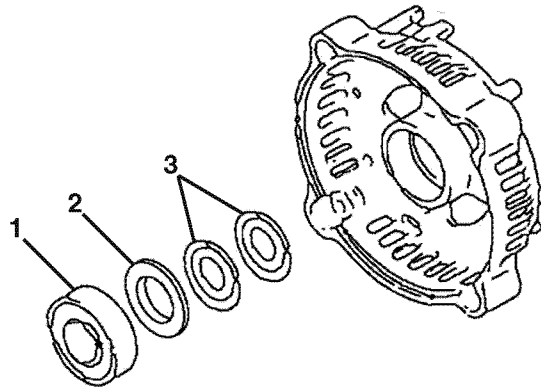

Figure 11-12
- If removed, reinstall the two thrust washers (Figure 11-12, (3)) and bearing cover (Figure 11-12, (2)) in the rear frame housing. Lubricate the outside diameter of a new bearing (Figure 11-12, (1)). Press the bearing into the rear frame housing.